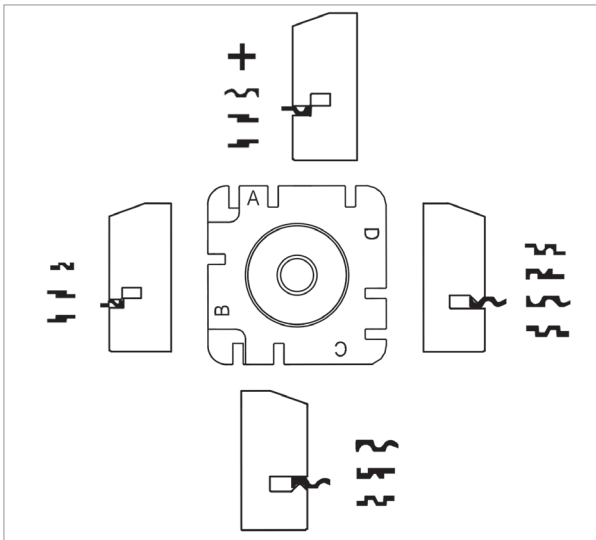

Fig. 25
- **Side A** of the clamp: for keys to be fitted on their backs, keys with double cuts without groove and cruciform keys (Fig. 25);
- **Side B** of the clamp: for keys placed on their backs and having cuts with a depth of less than 3,9 mm (Fig. 25);
- **Side C and D** of the clamp: for keys to be cut on both sides and locked on the groove (Fig. 25).